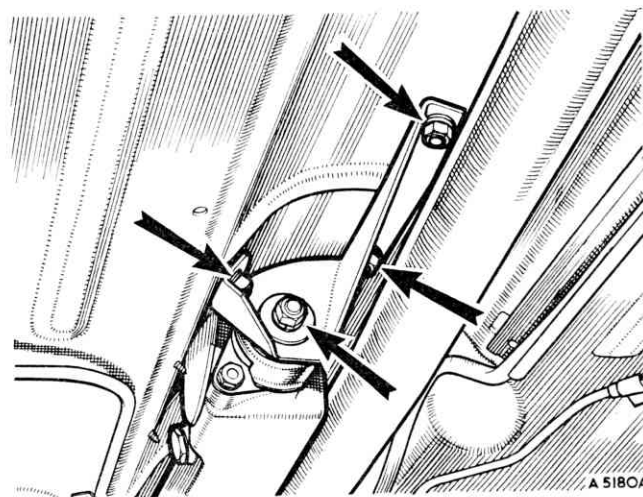

Fig. A.36
- (1) Remove the front floor covering, the gear lever knob, and the rubber gaiter.
- (2) From beneath the car, remove the securing screws and nuts from the extension rear support bracket (see Fig. A.36).
- (3) Remove the four bolts securing the extension to the transmission casing and detach the extension.